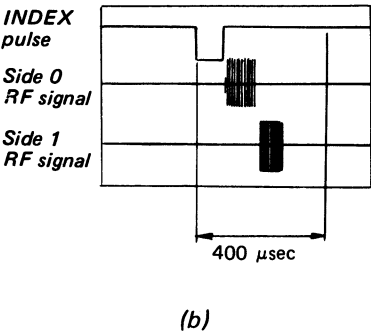

Fig. 5-3 Index Phase Adjustment
- a. If the phase relation described above does not meet the specification, adjust RV101 so that INDEX pulse on both sides are within +200 to +600μsec as Fig. 5-3 (b) with an adj. rod tool.